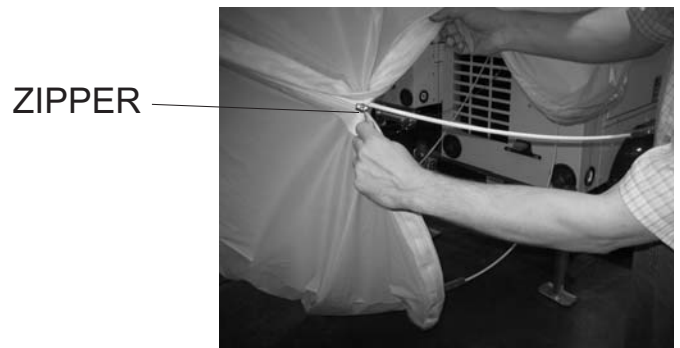

Figure 13. Zipping up Balloon
16. Zip up the balloon all the way around. See Figure 13.